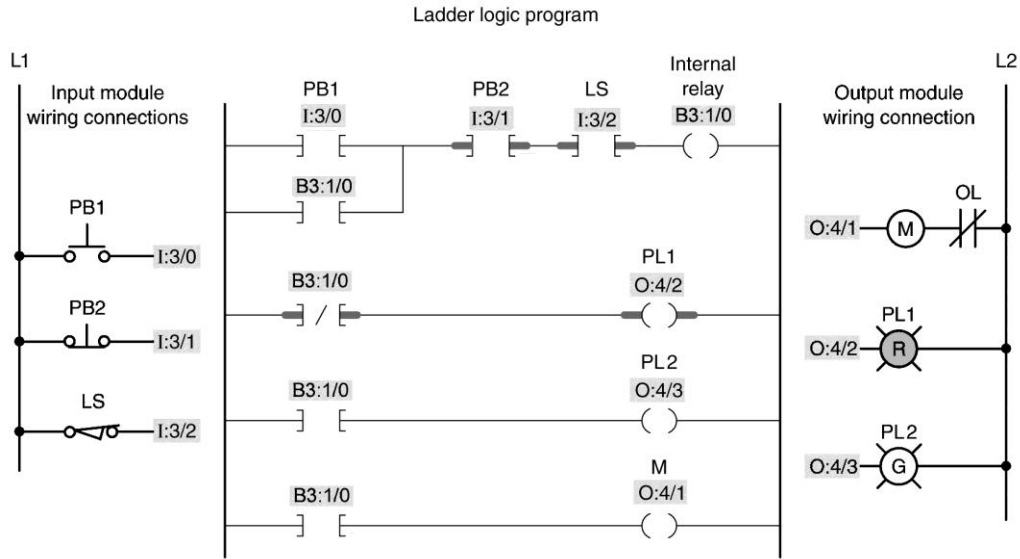

Figure 6-40 Sequential process program for assignment 17.
17) The sequential process program of Figure 6-40 is described in the text. Prepare an I/O connection diagram and ladder logic program for the process. Use addresses that apply to your PLC. Enter the program into the PLC, and prove its operation.